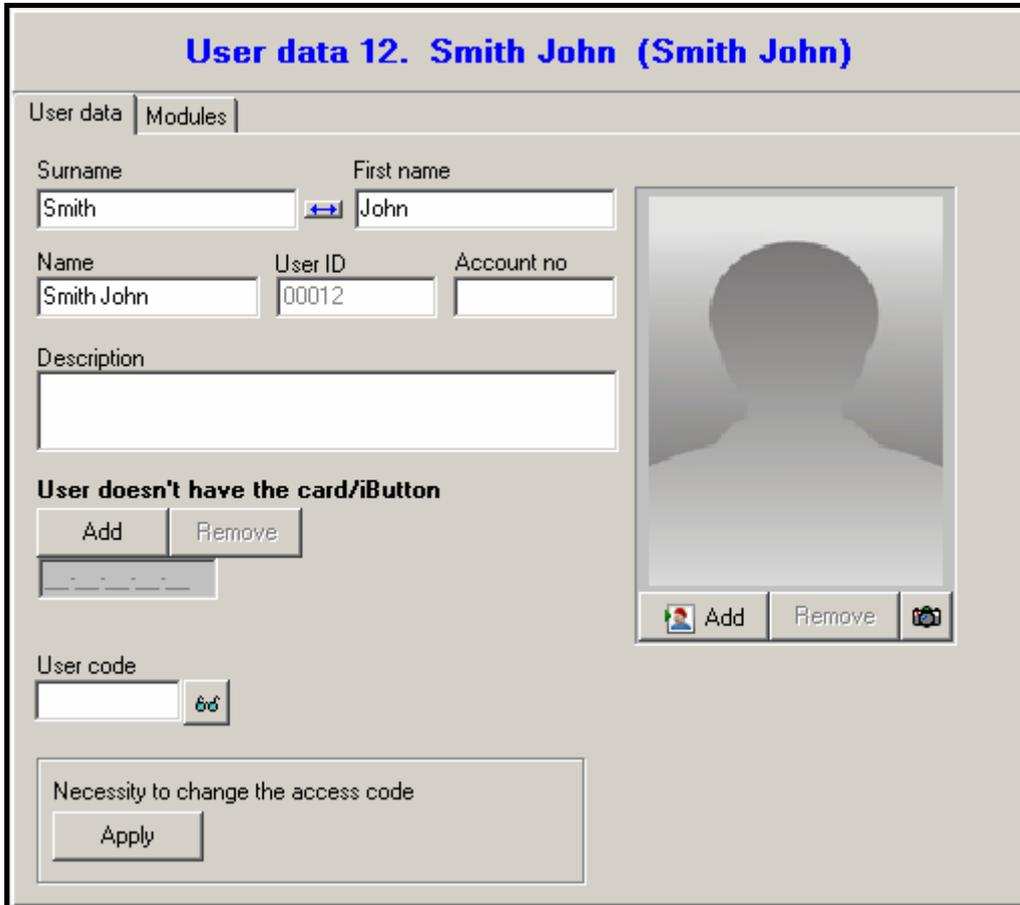

Fig. 26. User data tab in the USERS window.
- 7. Enter the last name, first name and display name of the user (16 characters) in the USER DATA tab. The display name will be created automatically after entering the user's last and first name, however it can be independent of them. The display name only is saved to the module. In the ACCO-SOFT-LT program, this name is displayed in brackets in the USERS window (see Fig. 26).